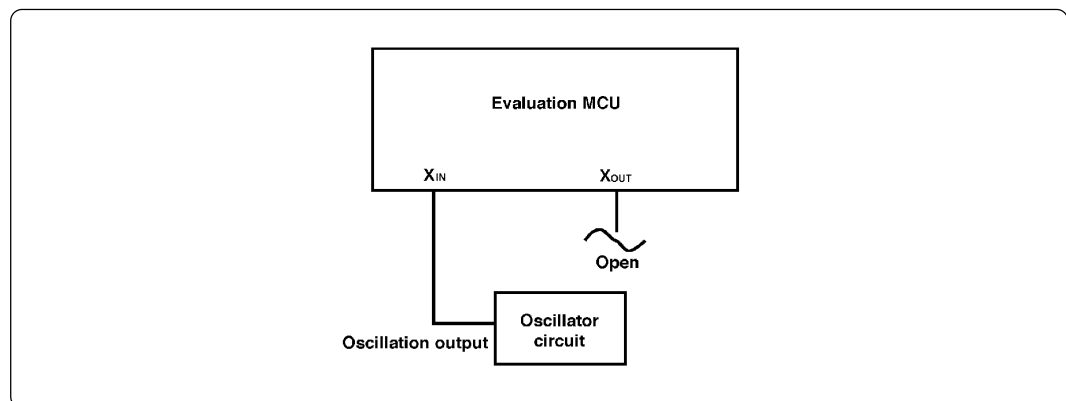

Figure 3.5 External oscillator circuit
To operate this product with an oscillator circuit of the target system, input the oscillator output at 50% duty (within the operating range of the evaluation MCU) into pin  $X_{IN}$  as shown in Figure 3.5. Pin  $X_{OUT}$  should be open. Choose "External" in the emulator debugger to use this clock.
- To operate this product with an external clock, construct the oscillator circuit as shown in Figure 3.5 in the target system and input the oscillator output at 50% duty (within the operating range of the evaluation MCU) into pin  $X_{IN}$ . And pin  $X_{OUT}$  should be open.